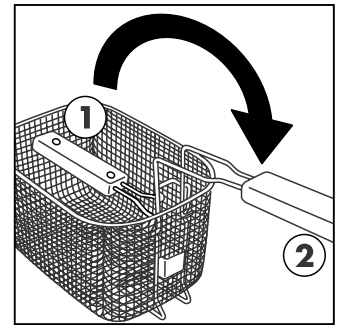
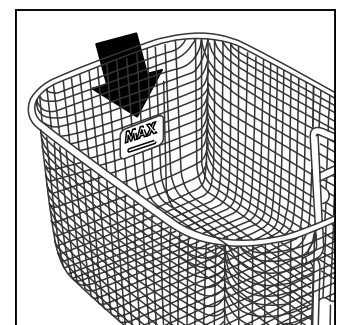

fig. 1
fig. 4
- Turn the folding handle of the basket until it locks into place (pos. 2, Fig. 1). Remove the basket by lifting it upwards.
- While the oil is heating up, start to fill the removed basket with food, without exceeding the maximum level indicated on the basket (fig 4). Check that the handle of the basket is correctly positioned (pos. 2 in fig 1).